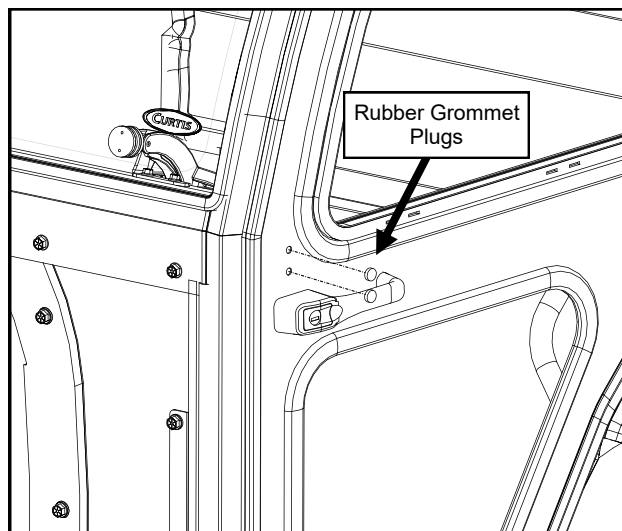
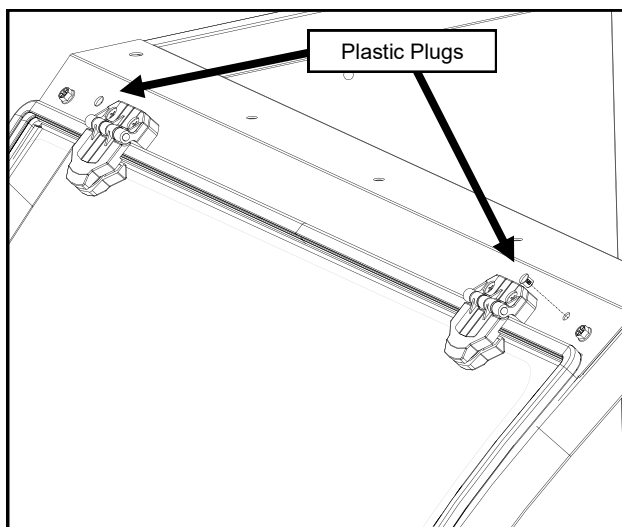

Fig. 23.1a (Install Mirror Mounting Hole Plugs)
Fig. 23.1b (Windshield Support Plugs)
- 23.1** If installing accessories, please do so now. If not, use the supplied plugs and/or fasteners to fill any exposed holes. *The roof assembly has been hidden for clarity in fig. 23.1b.* See Figures 23.1a thru 23.1c.